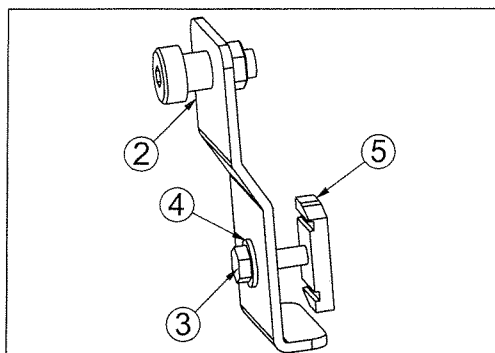

Fig. 5
6. Assemble the Bolt (#3), Washer (#4), and Anchor Plate (#5) to the Mounting Bracket (#2) as shown in Fig. 5. Be sure the grips on the Anchor Plate (#5) face the Mounting Bracket (#2). Only turn the Anchor Plate (#5) on a few turns.